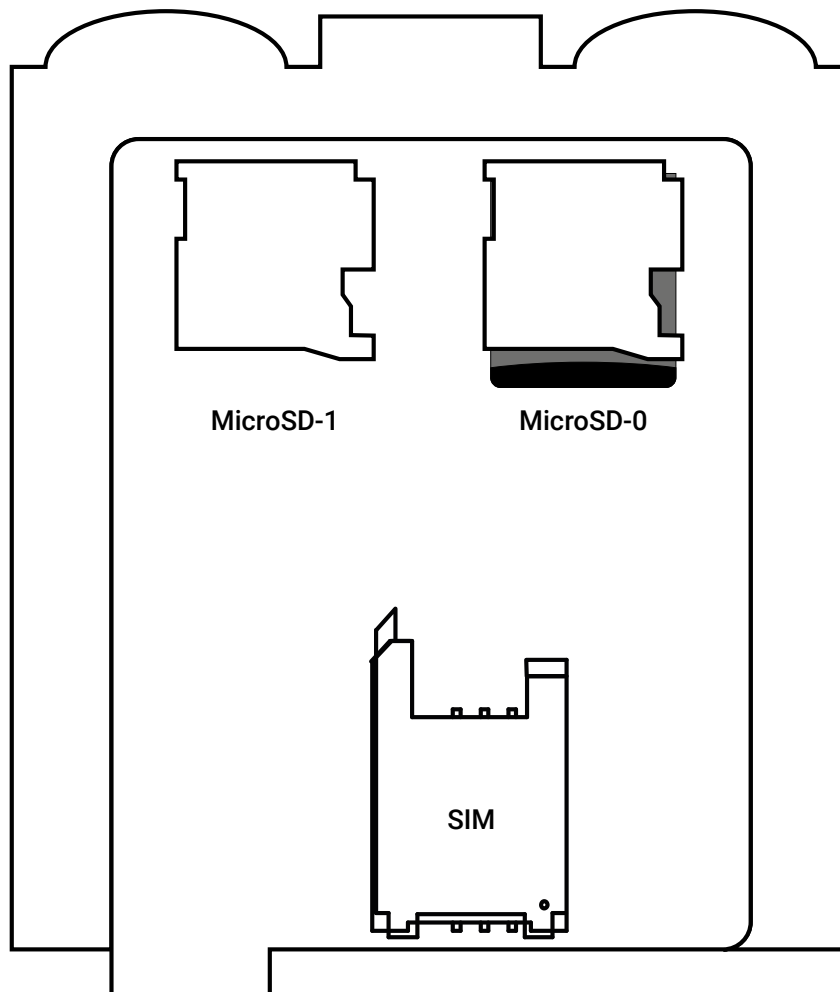

Figure 3 – Elements under the cover
12. For the device operation in the VPN network, you must place the file "vpn.json"³ with the correct connection settings to an external storage device installed in a slot MicroSD-1 (see Fig. 3).
To configure the network settings (IP address, gateway, mask, DNS) you must place the file "network.json"⁴ to an external storage device installed in a slot MicroSD-1 (see Fig. 3). Before doing this, open the file with any text editor (e.g., Notepad) and enter the parameters in accordance with the configuration of your network.